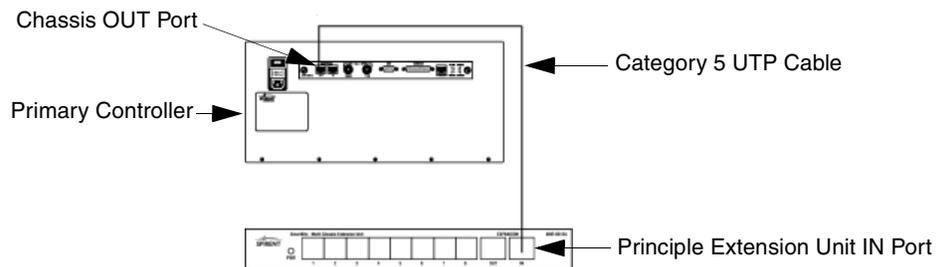

Figure A-9. Initial Connection of a SmartBits Chassis to an Extension Unit
The primary SmartBits chassis connection that measures from the *Primary Controller* (or #1 chassis) to the *Principle Extension Unit* (see Figure A-9) determines the maximum cable length of subsequent cables used between a SmartBits chassis connected to the Multi-chassis Extension Unit.
To determine the cable length limitation for these connections, subtract the length of the *Primary Controller/Principle Extension Unit* cable from 50 feet (15.24 meters). In the example shown in Figure A-9, the cable used to connect the master chassis to the *Principle Extension Unit* is 3 feet in length. Therefore, the maximum accumulative cable length from the extension unit to all directly connected chassis (see Figure A-10 on page 79) can be any variable under 47 feet ($50 - 3 = 47$) in length.
- 1 Connect a cable from the expansion OUT port of the *Primary Controller* to the IN port on the *Principle Extension Unit* as shown in Figure A-9.